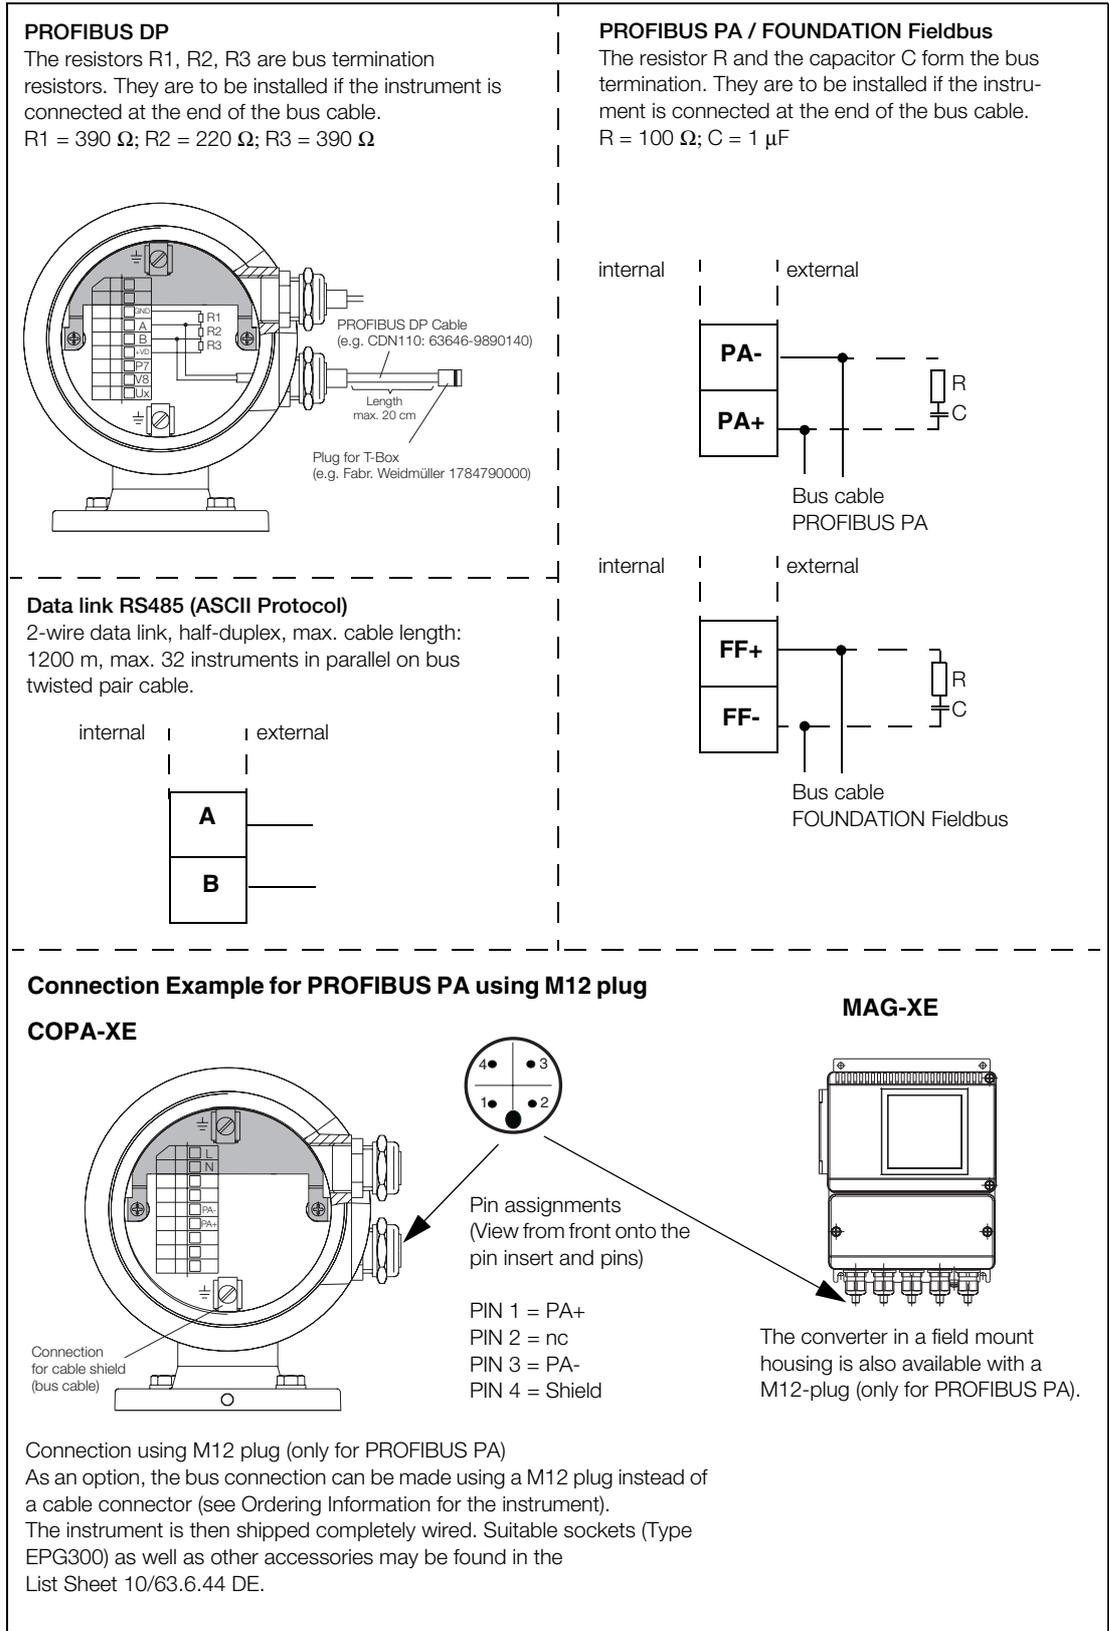

Fig. 43: Connection Examples for Peripherals for Digital Communication (PROFIBUS DP, PROFIBUS PA, FOUNDATION Fieldbus, ASCII)
- Check that the EEPROM is plugged into the socket on the display board of the converter (see Fig. 43). There is a sticker on this EEPROM which has the same order and end numbers as those listed on the factory tag of the flowmeter primary. **Both must be identical!**